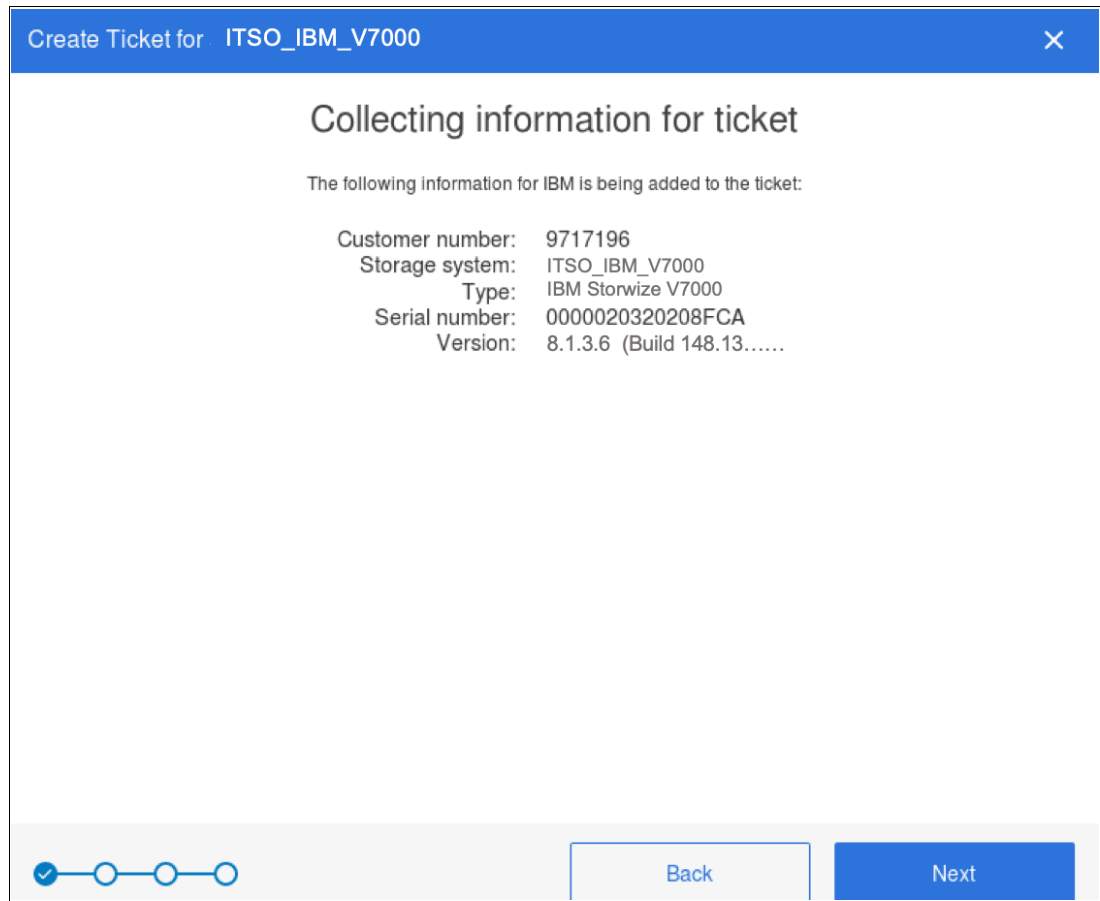

Figure 10-15 Collecting ticket information
3. Figure 10-15 shows the ticket data collection done by the SI application.